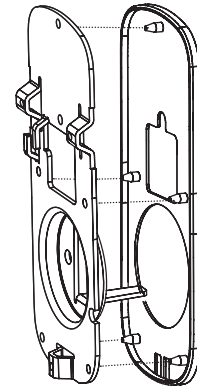

Figure 3A
- a. Ensure that gasket on inside mounting plate is properly fitted. Note the positioning of the gasket's five rubber nubs (Figure 3A) .